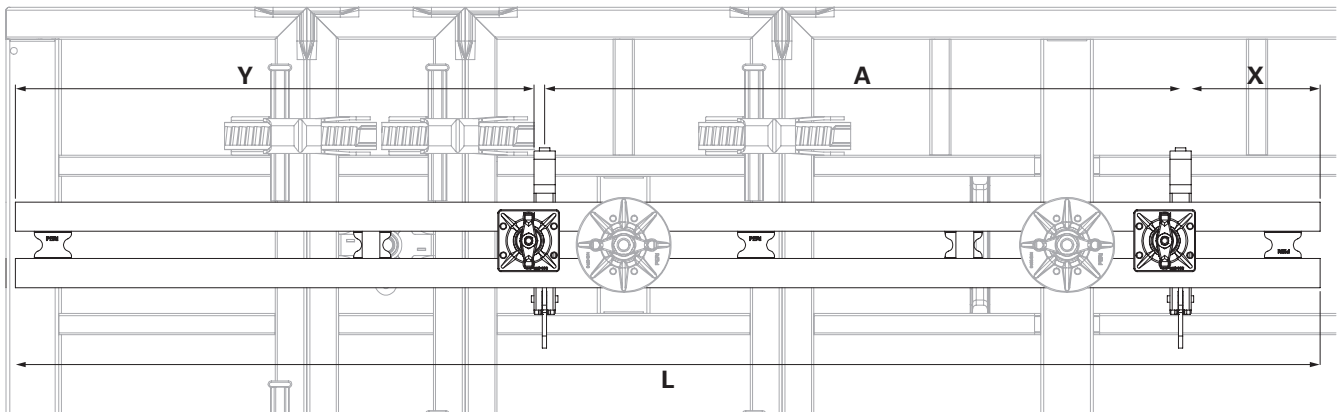
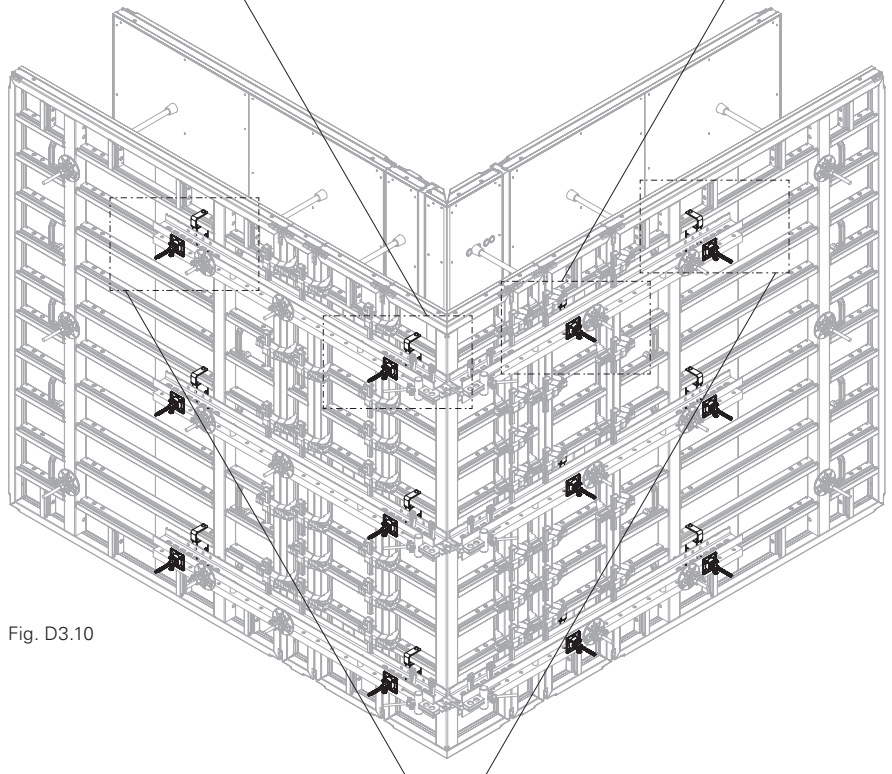

Fig. D3.04
Fig. D3.10
- Regardless of the length of the Steel Waler SRU U120 (89), only two fixing points or connection points are necessary. The connection points can be realised in two ways:
- Two Adaptors MXE 330 (15) (Fig. D3.10 on page 227)
- One Adaptor MXE 330 (15) and one connection point on the Panel MX-2 330x45 element (not shown).
- The system holes in a frame provide several options for fitting the Adaptor MXE 330 (15). Opt for the maximum possible distance A between the two connection points. Taking this rule into account, two types of installation are possible. Here, X is the smaller distance between the Adaptor MXE 330 (15) and the edge of the steel waler compared to the opposite distance Y (Fig. D3.04):